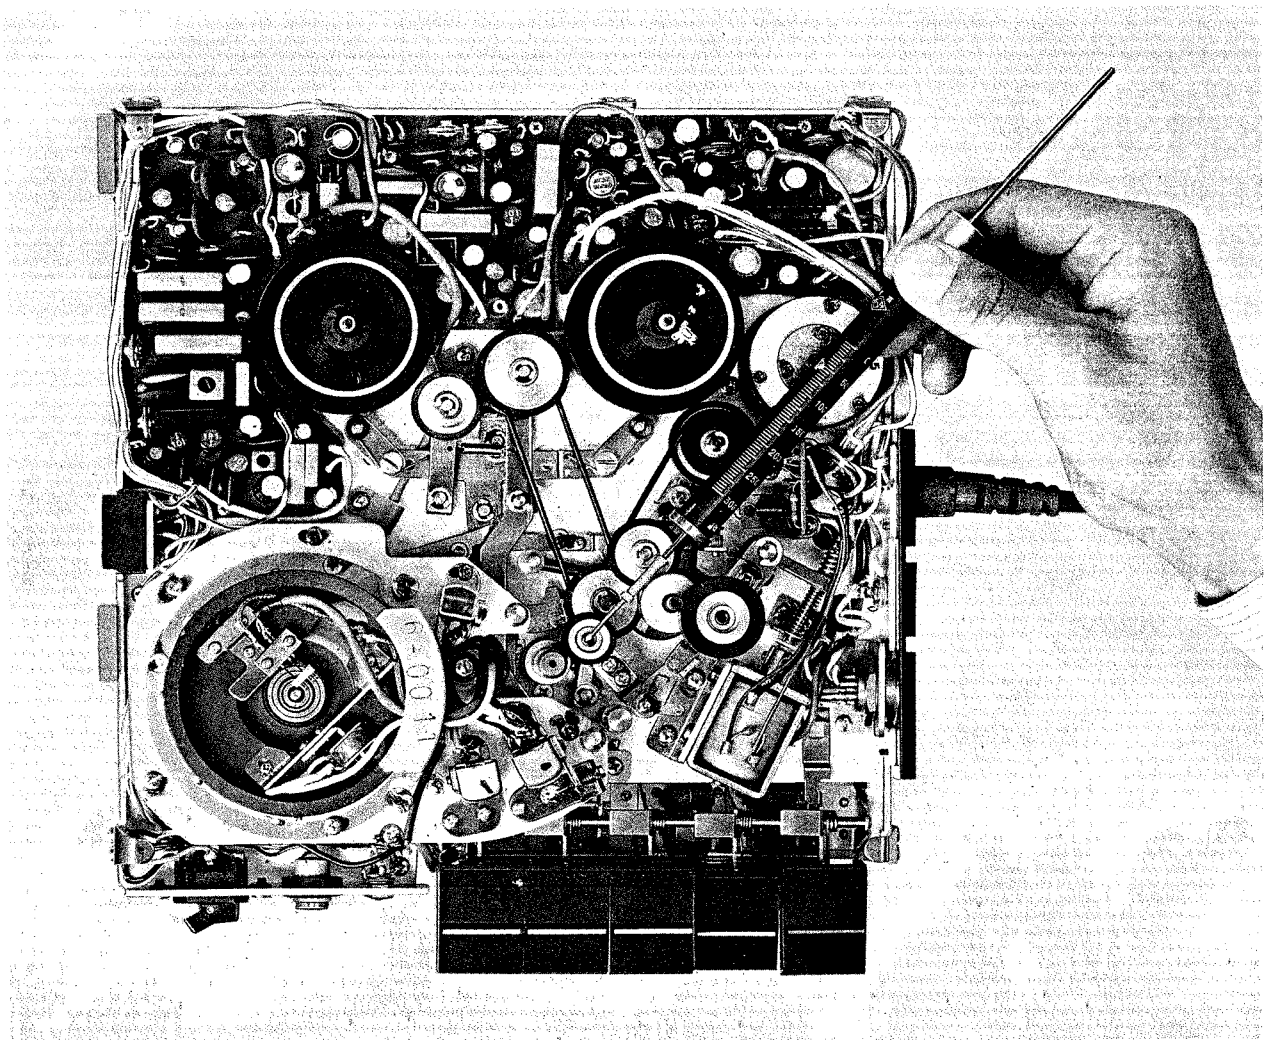

Fig. 1-35 Sub Pinch Roller Pressure Measurement
(7) Sub Pinch Roller Pressure Adjustment
- a) As shown in fig. 1-35, connect a 0 to 300 gram spring gauge to sub pinch roller shaft and measure the sub pinch roller pressure.